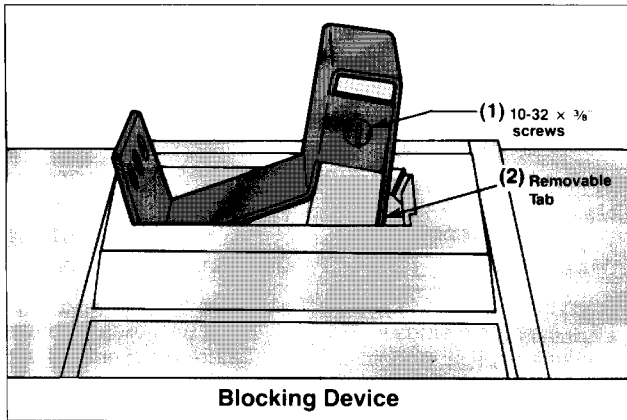

Figure 1
- C. Loosen the two screws (1) (#10-32 × 3/8 in.) so that the blocking device can be positioned and fully seated over the toggle handle, as shown in Figure 1.